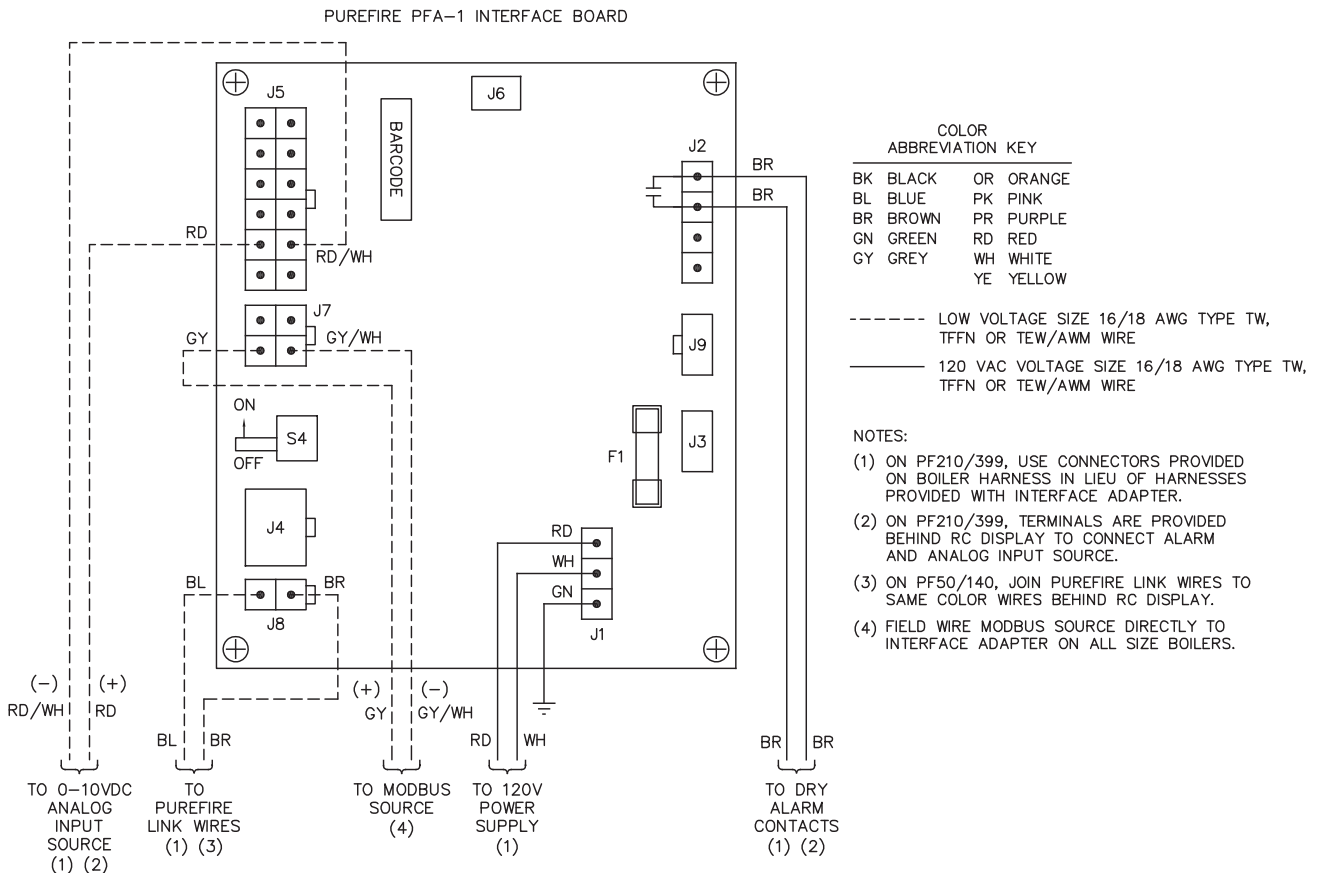

Figure 3: Electrical Wiring
- Figure 3 shows customer wiring connections for the PFA-1 Interface Board.
For external control of setpoint temperature or input rate of a *PUREFIRE* Boiler, a 2-10 volt dc analog signal is to be applied as shown in Figure 3 to the analog input wires.